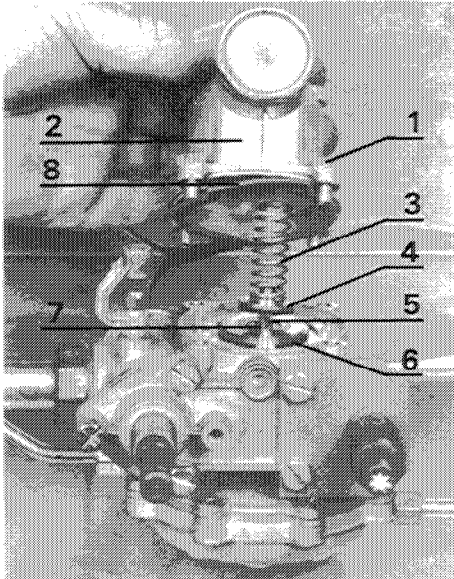

Fig. 21
- b) Remove four screws (1, fig. 21) securing governor housing to gas section.
- c) Lift off and remove governor housing (2, fig. 21).
- main gas valve spring (3, fig. 21)
- first stage gas valve (4, fig. 21)
- first stage gas valve spring (5, fig. 21)
- main gas valve (6, fig. 21)Place all components on clean surface.
- e) Withdraw main gas valve spindle (7, fig. 21) and remove all grease using lint free cloth. Re-grease using silicone and reposition in gas valve.
- g) Renew gasket (8, fig. 21) between governor housing and gas valve body.